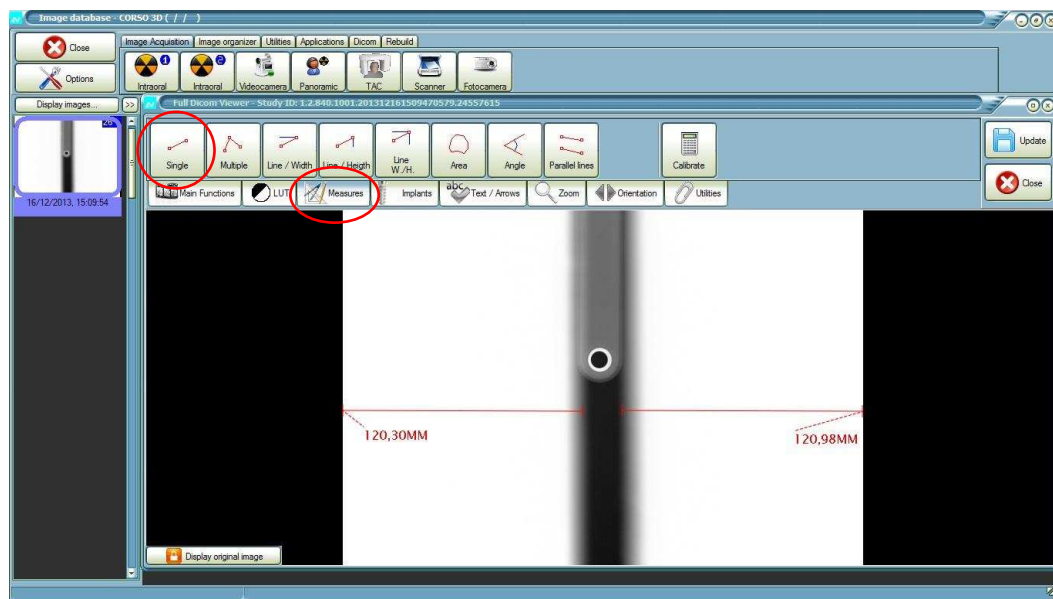

Figure 7-10
24. Select from the menu "Measure" the icon "Single" and measure the distance between the borders of the image and the borders of the central vertical stripe (Figure 7-10).